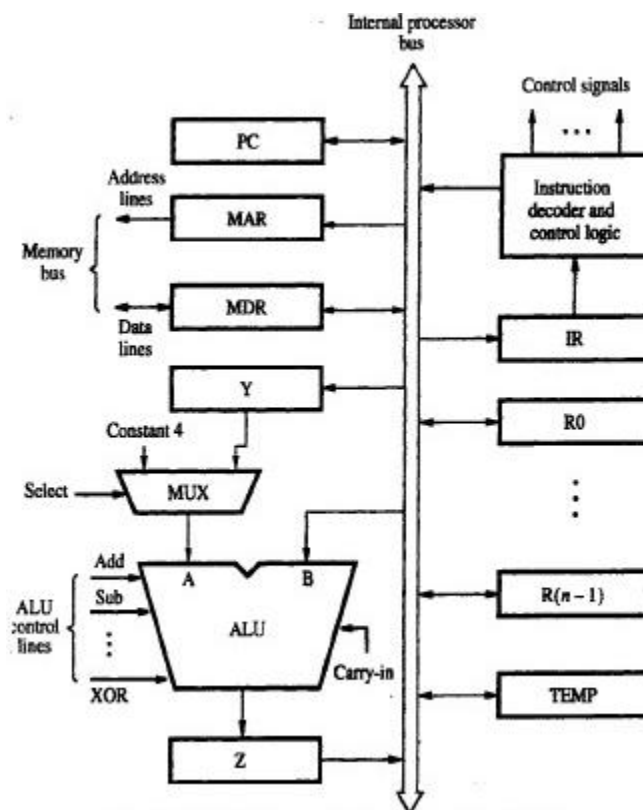

Figure 3.2 Single bus organizations
- ALU and all the registers are interconnected via a **Single Common Bus** (Figure 3.2).
Figure 3.3 input and output gating for the register in figure 3.2